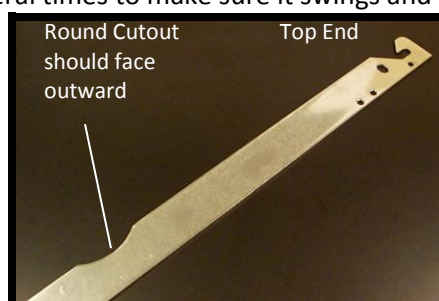

Figure 63: Latch Connector
3. Make sure the new latch connector is right side up (Figure 63).